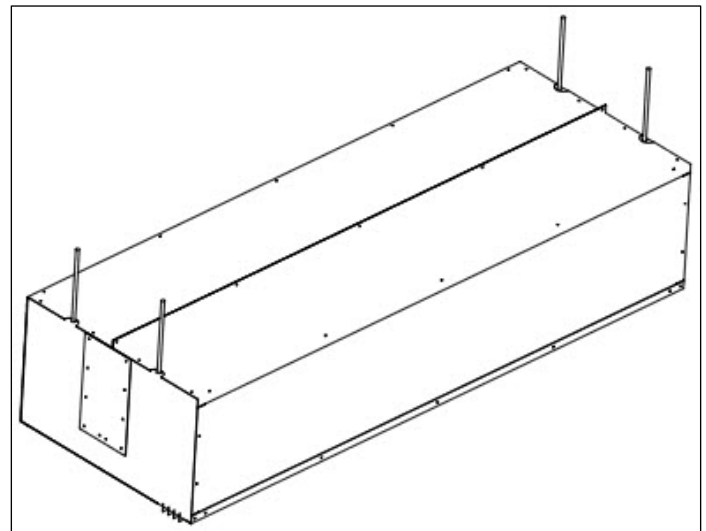

FIG. 2
4. All units are equipped with (4) 3/8" threaded inserts on top for overhead installation (FIG. 2)
6. and parallel with the door opening. Use (4) threaded rods to suspend the enclosure to the ceiling.
8. If applicable, for tandem installation of products mounted side by side, allow no more than 6" between the two units. Note that (4) sets of threaded rods are used to suspend each unit to the ceiling.